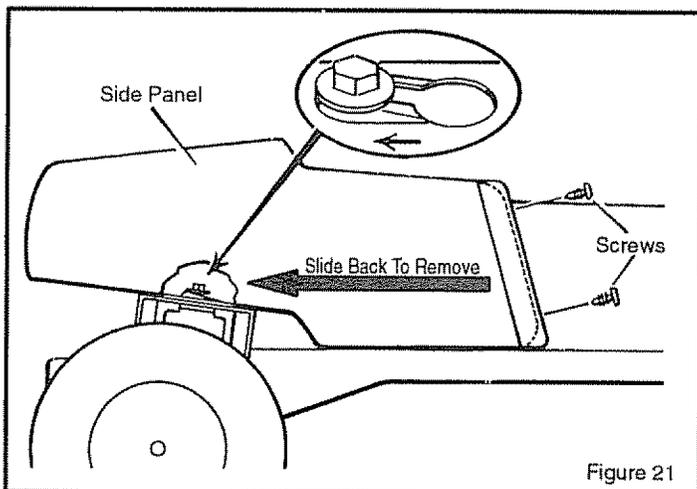

Figure 21
7. The brake adjustment of the transaxle is located on the underside of the transaxle (Figure 21). Use one wrench to hold the brake stud and another wrench to hold the hex nut. Loosen the hex nut approximately 2 turns.
1. Remove the large screws that hold the front of the side panel (Figure 21)